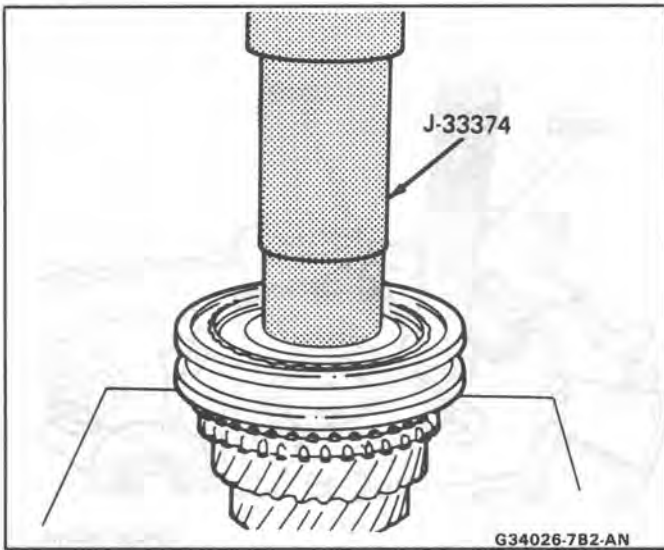

Fig. 27 3rd/4th Sleeve/Hub and Collar
- Match the inserts of the 3rd/4th sleeve and hub assembly with the grooves of the blocker ring and press the sleeve and hub assembly and collar. Using J 33374 and a press (Fig. 27). Before installing, apply oil to the collar and hub interiors. After installation, apply oil to the circumference of the collar. Check to ensure the insert springs do not interfere with the hub after installation.